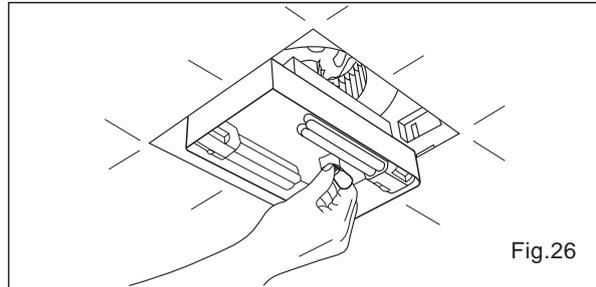

Fig.26
2. Remove the 4 W night lamp. (Fig.26)